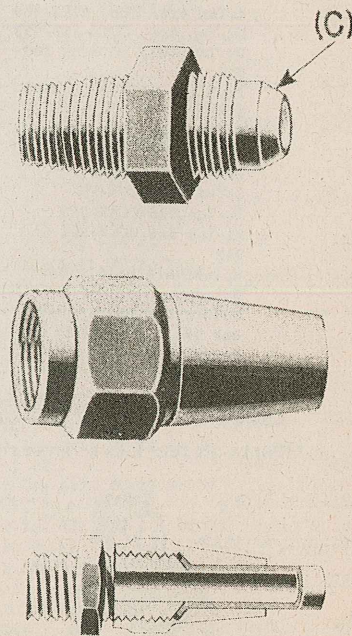

Figure 3
The third type of fitting, *SAE Flare*, (Fig. 3) consists of a Body and a Tapered Nut. The trick to remember here is that the body has a "seat" or a "face" (C) and that the tubing used, as we just said, has to be flared. This flare then sits on the seat of the body and the nut is screwed on. The nut has a shoulder and the flare gets sandwiched firmly between seat and shoulder.